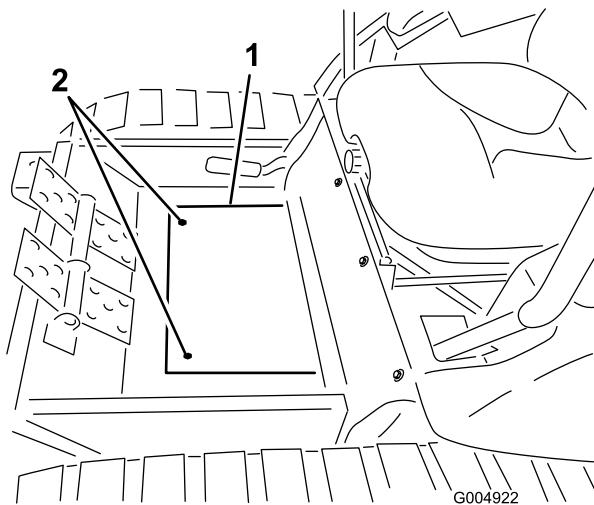

Figure 34
25. Install the winter frame floor plate cover to the floor with the screws previously removed (Figure 34).